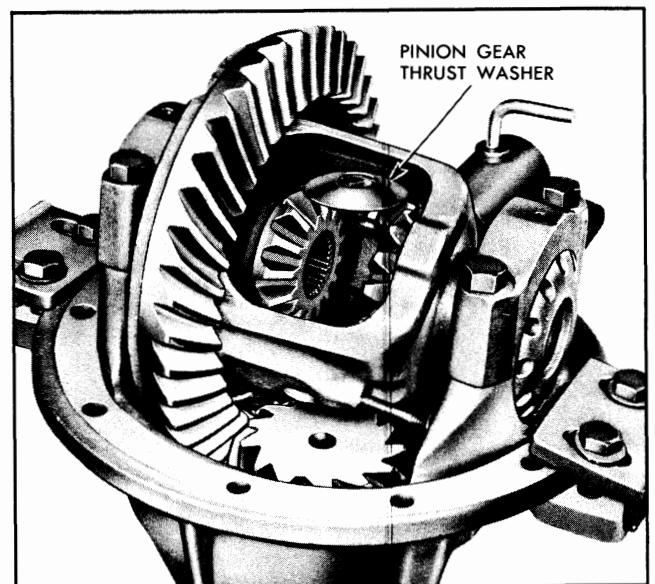

Fig. 4-57 Placing Pinion Gear Thrust Washer in Position
21. Lubricate both sides of pinion gear thrust washers and rotate side gears so that one pinion gear is positioned to receive washer, and install (Fig. 4-57).